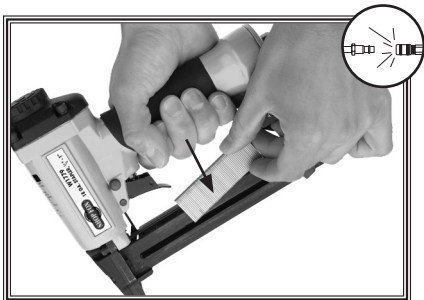

Figure 4. Loading staples into magazine. -8-
3. Insert a stick of staples, pointed-end down, into the magazine as shown in **Figure 4**.